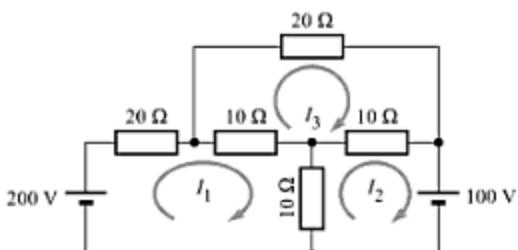

Fig. 3.69
10. Apply mesh analysis and determine the loop currents  $I_1$ ,  $I_2$  and  $I_3$  in the circuit shown in Fig. 3.69.